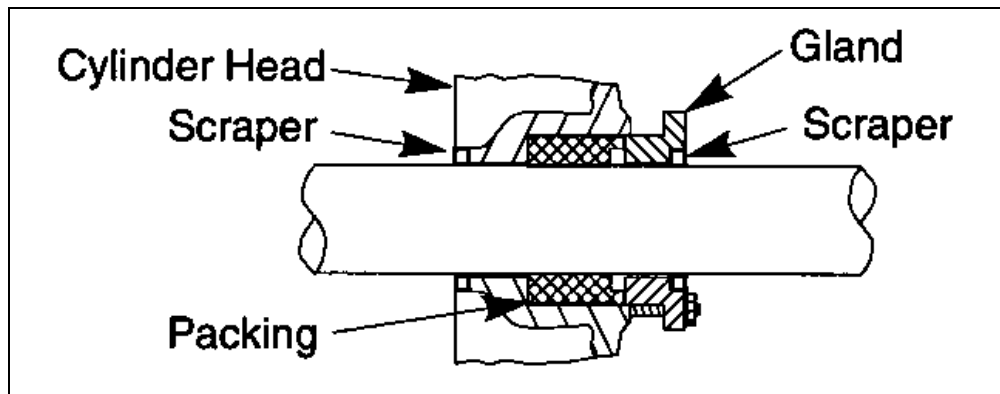

Figure 2 – Cylinder Repair Component Locations
13. Remove the scrapers from the cylinder head and gland. Figure 2 shows the locations of the scrapers.
15. Push new scrapers into the head and gland until they bottom out in the counterbores. The open side of the scraper should face away from the counterbore (see Figure 2).